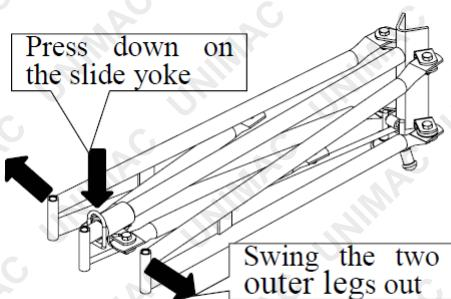

Fig. 2
- b. Press down on the slide yoke ring. Hold it down while you swing the two outer legs out until the yoke rings snap into the locking hole on the bottom of the slide tube, as shown in Figure 2.